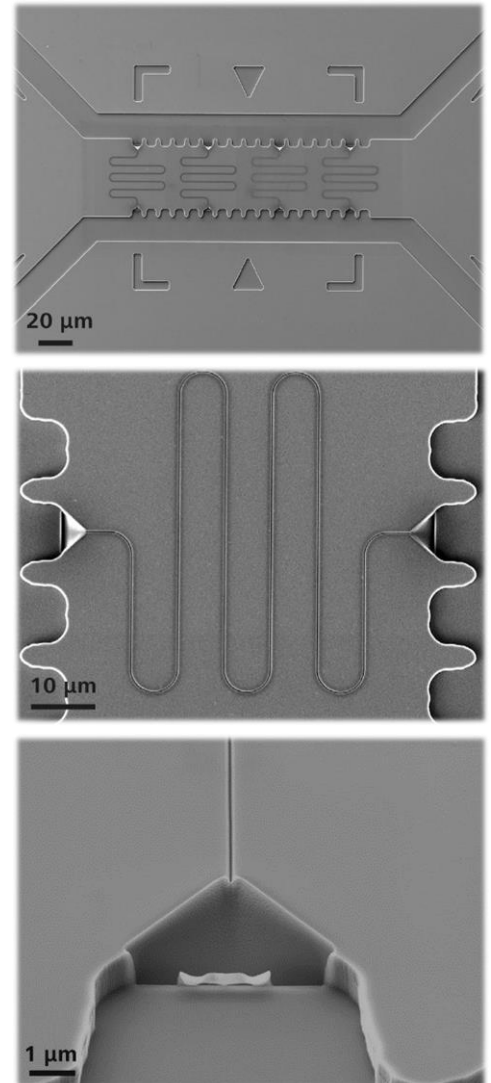

Figure 1 - Nano-fluidics channels fabricated by FIB in a silicon master stamp
- Nano-patterning to create nano-fluidic channels in a silicon master stamp (see Figure 1)